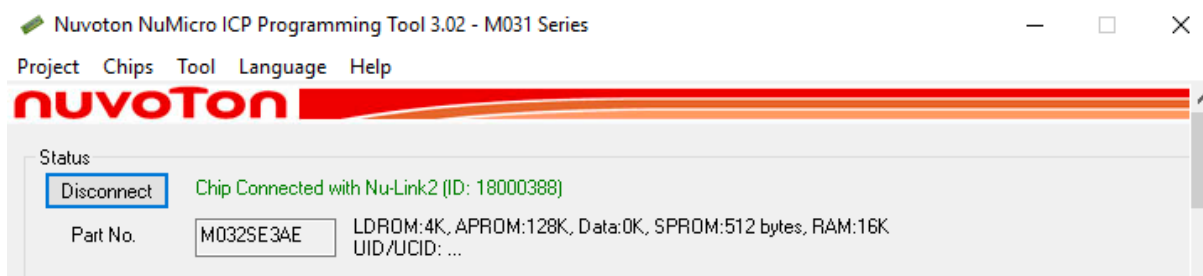
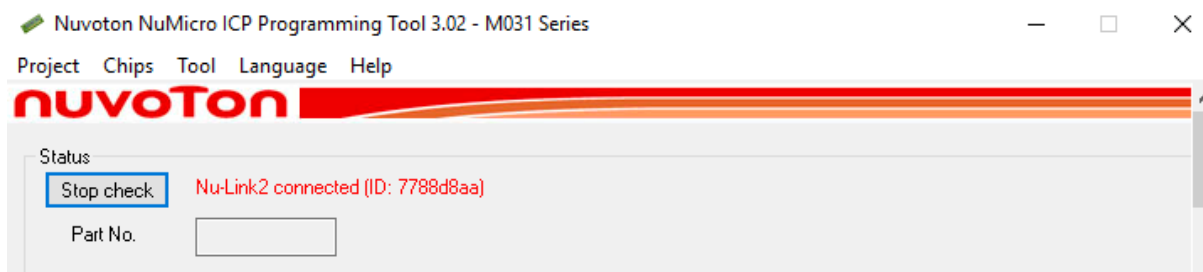

Figure 5.2-5 Nu-Link2-Pro Connected with a Target Chip Detected
Figure 5.2-6 Nu-Link2-Pro Connected with No Target Chip Detected
SWD port will be detected. Figure 5.2-5 shows that the ICP Tool has been connected with the Nu-Link2-Pro and a target chip is detected. At this time, the user can start programming the target chip.
- (9) Figure 5.2-6 shows that the ICP Tool has been connected with the Nu-Link2-Pro with no target chip detected. The ICP tool will continue detecting the target chip until the **Stop Check** button is clicked. At this time, the user cannot program any chip, but can use the offline programming to save the offline programming information in the Nu-Link2-Pro.
- (10) Click the **Disconnect** button if programming is not needed (as shown in Figure 5.2-5). Or click the **Stop Check** button to disconnect the ICP Tool with the Nu-Link2-Pro and leave the Nu-Link2-Pro unused (as shown in Figure 5.2-6). As such, the Nu-Link2-Pro can be connected with another tool.